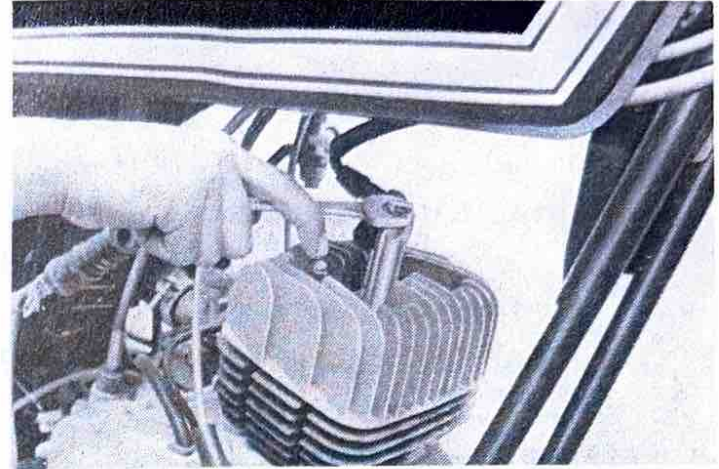

Fig. 29
- a) Remove the cylinder head nuts with the 10mm socket wrench. (Fig.29) Pull off the heads and scrape the carbon from combustion chamber.